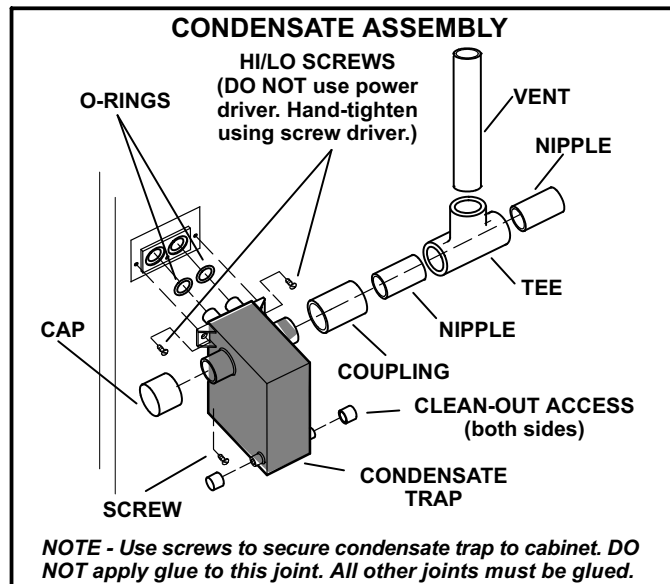

FIGURE 47
- 2 - Install condensate trap onto the condensate collar. Use provided HI/LO screws to secure two upper flanges of the trap to the collar. Use provided sheet metal screw to secure bottom trap flange to side of unit. **DO NOT apply glue to secure condensate trap to cabinet.** All other joints must be glued. See figure 47.